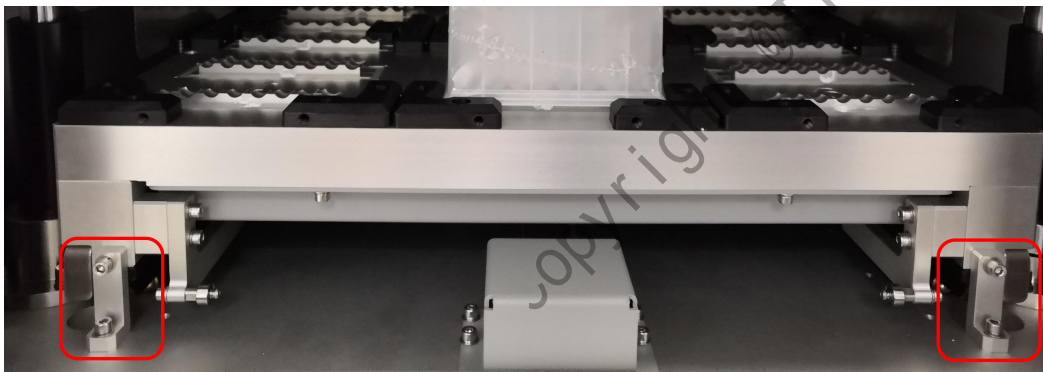

Figure 3-3. Transportation Lock
- 1) Please open the drop-down door of the experiment module, and remove 4 bolts of transportation lock on the left and right sides of the instrument with M3 hexagonal socket tool, as shown in Figure 3-3.